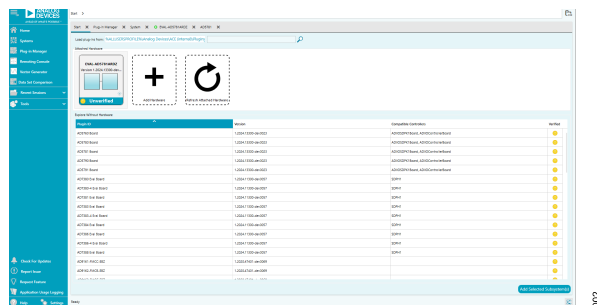

Figure 2. ACE Software Main Window
2. Run the **ACE Software** application. The EVAL-AD5781ARDZ or EVAL-AD5791ARDZ plug-ins appear in the attached hardware section of the **Start** tab, as shown in **Figure 2**.